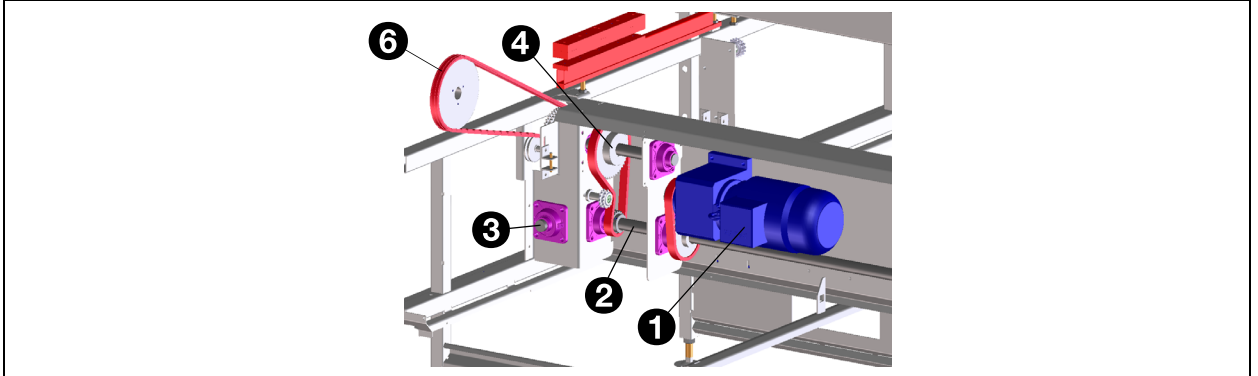

Fig. 95 - Main drive
The primary motor (1) drives the main shaft (2), see fig. 95. The main shaft drives the Transfer™ (4), loadcell unit (5) and infeed unit (6), see fig. 95 and fig. 97. A right-angled transmission (3) is mounted on the main shaft to drive the frame. See fig. 97.